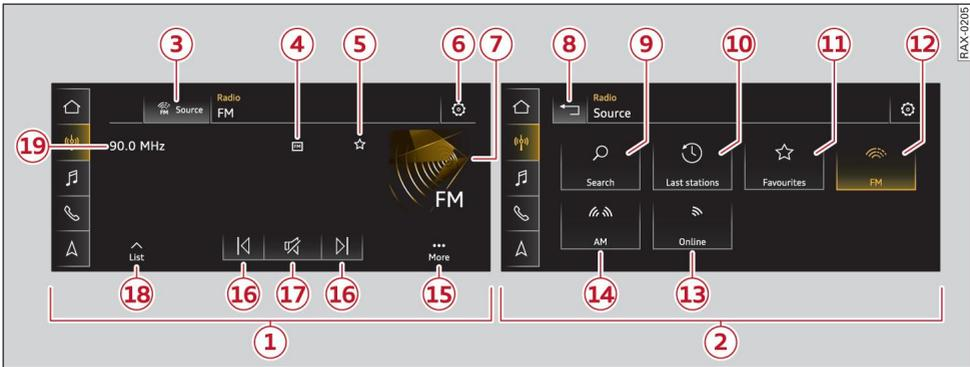

Fig. 127 Centre display: Radio functions, playback view (left-side); sources (right-side)
► In the playback view, press ☆  ⇒ *page 176, Fig. 127*.